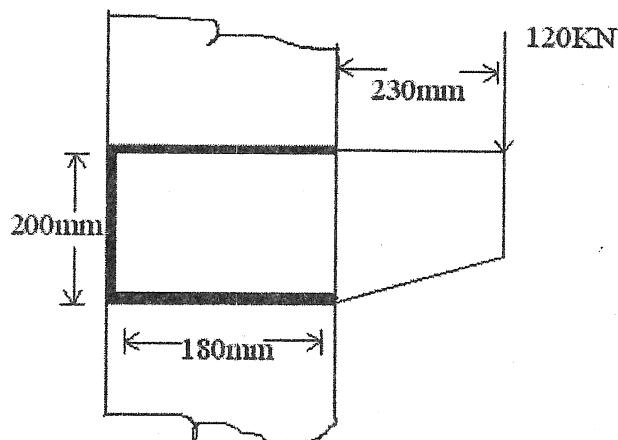

Fig. 1
- 1 A welded bracket connecting a plate to a column flange is shown in Fig.1. Design the welded connection.